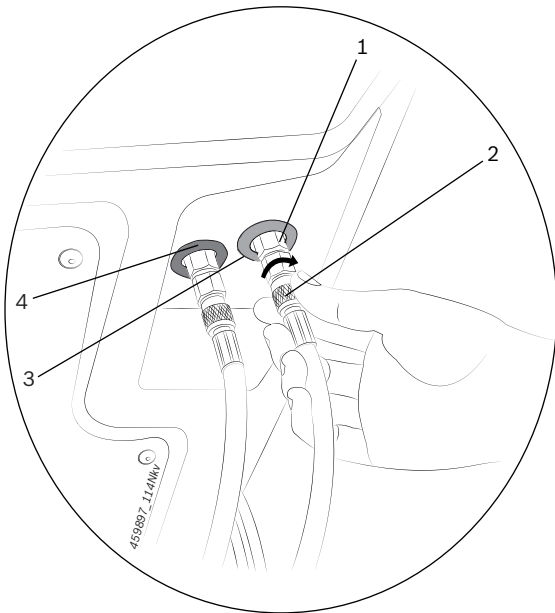

Fig. 7: Connecting the service hoses
10. Connect the end connectors of the service hoses (Fig. 7, Pos. 2) to the hose connections (Fig. 7, Pos. 1). Observe the red / blue identification stickers on the front panel before connecting the hoses. Tighten the hose connection.
i The HP hose (red hose) should be connected to the hose connection with the red identification sticker (Fig. 7, Pos. 4). The LP hose (blue hose) should be connected to the hose connection with the blue identification sticker (Fig. 7, Pos. 3). Do not interchange the HP and LP hose connections.